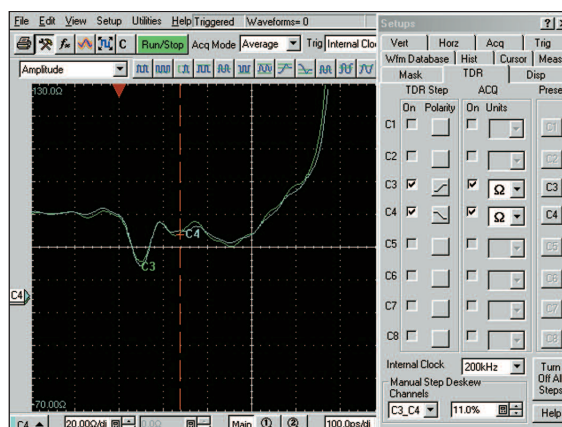

Figure 14. Differential TDR after deskew adjustment
Use the Deskew adjustment in the TDR Setup menu to deskew the two channels such that they are aligned at the USB connector where the DUT will be connected. The result is shown in Figure 14.
- Mathematically add the two channels using the “+” button on the control panel window. To create the single differential waveform shown in Figure 14, turn on the math waveform and select Apply.